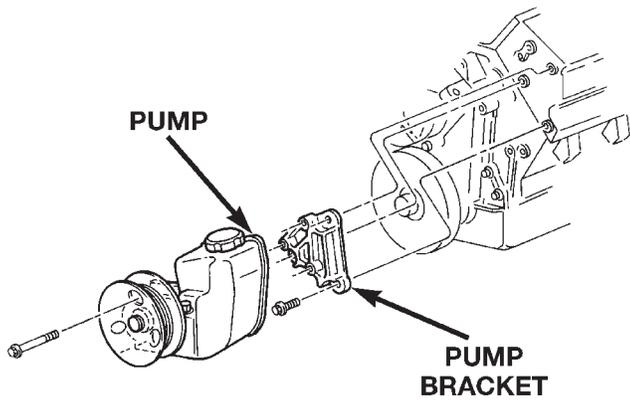

Fig. 4 Pump Mounting – 5.2L/59L
(1) Remove the serpentine drive belt. Refer to Group 7 Cooling.
(2) Remove the pressure and return hoses from pump and drain pump.
(3) Vehicles equipped with Speed Proportional Steering, disconnect actuator harness.
(4) Remove pump mounting bolts and remove the pump (Fig. 4).
(5) Remove pulley from pump.